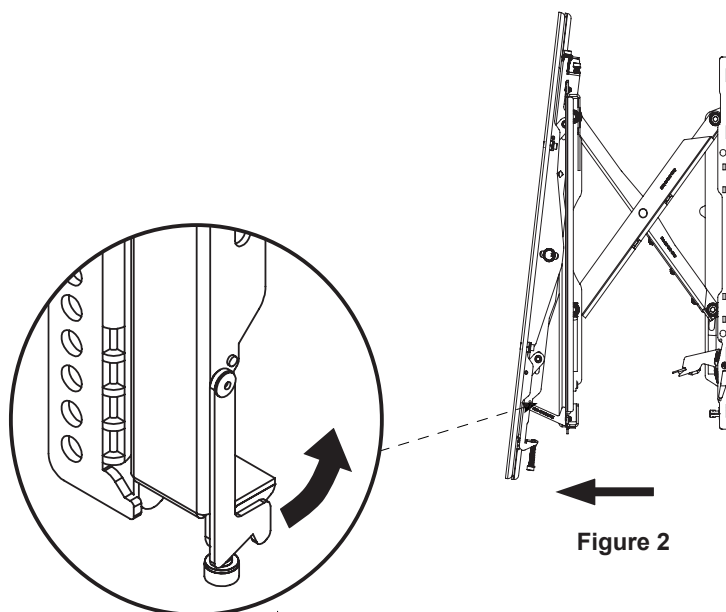

Figure 2
- 2) Slowly pull the front of the LMVSP to extend the scissor arms (Figure 2).
- 4) Tilt up the bottom of the flat-panel, then set their kickstands against the bottom tubing of the mount (Figures 2 & 3).